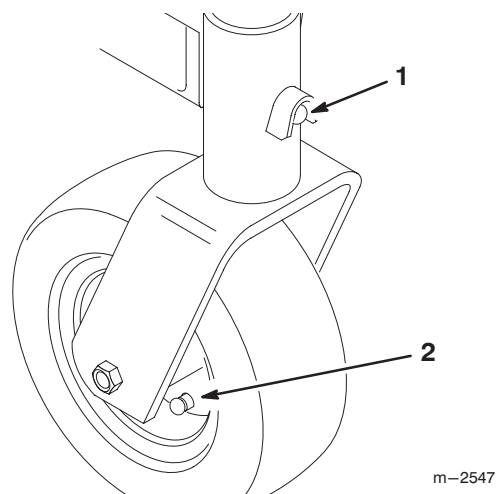

Figure 25
3. Grease the fittings on the carrier frame mounting tubes and castor wheels (Fig. 25).